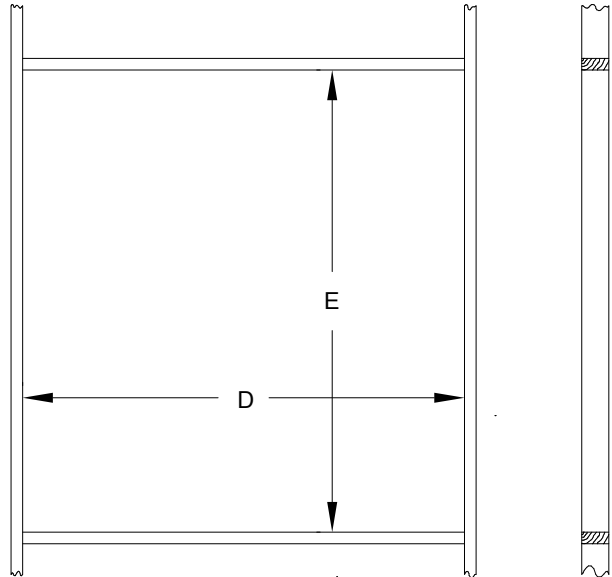

FIGURE 1
1. Provide an opening in the wall for the fan housing with inside framing dimensions as shown in Figure 1 and Table 1. It is preferable to frame the opening with 2" wood material (2" x 6" or 2" x 8") or a metal frame.